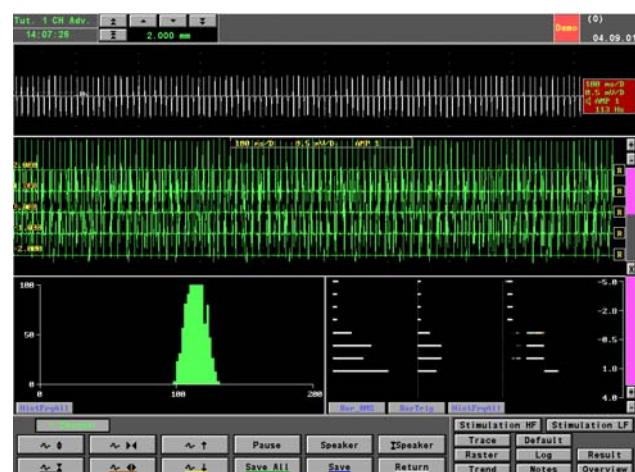

Figure 85 The Electrode Has Passed the Target by 2.000mm
- Alter the distance to the target from 1.000 to 2.000mm; see Figure 85 below.